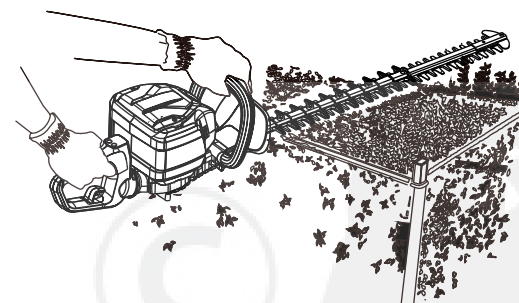
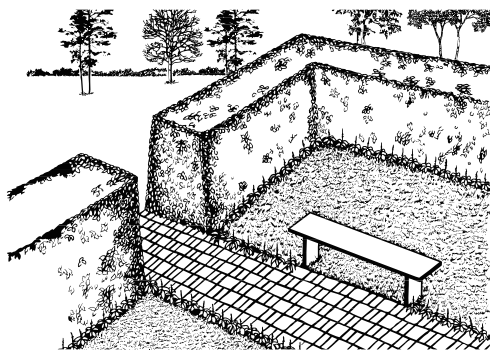

Fig. 5
Fig. 6
- If desired, you can use a string to help cut your hedge level. Decide how high you want the hedge. Then, stretch a piece of string along the hedge at this height. Trim the hedge just above this guide line of string. See Figure 5. Trim the side of a hedge so that it will be slightly narrower at the top. See Figure 6. More of the hedge will be exposed when shaped this way, and it will be more uniform. If blades do become jammed, stop the motor, allow the blades to stop and remove the battery pack before attempting to remove the obstruction.